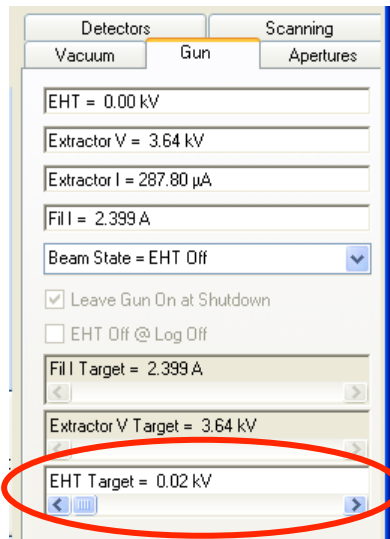

Figure 11: Gun tab.
6. Turn the EHT target to the desired value (for example 10 keV). See Figure 11: If the target is larger than 22 kV, then set the target to 22 kV first.